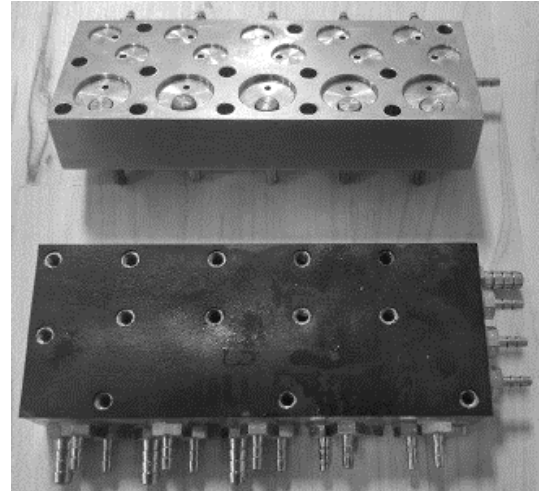

Fig. 2
- 8 Rinse the replacement control block diaphragm with water to remove any powder and apply while still wet to the block, lining up with holes and checking for correct positioning. (Fig. 2)